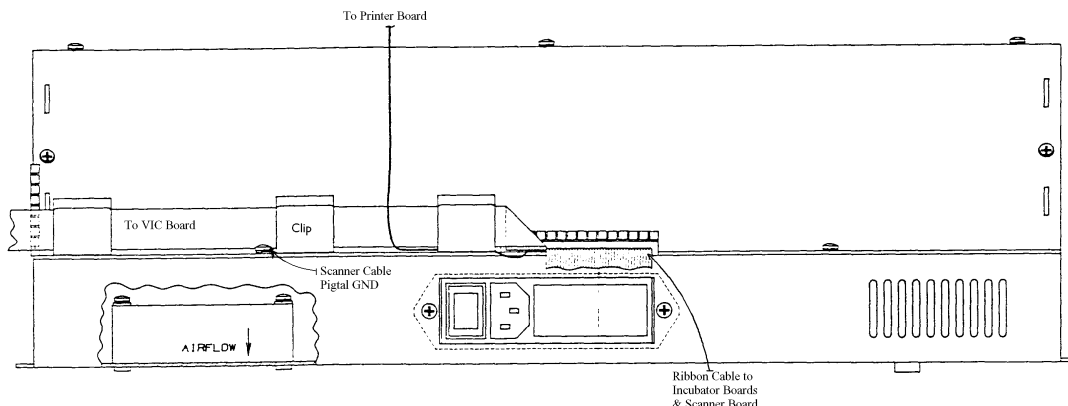

Figure 5-10 Power Supply Assembly
3. Remove the seven screws securing the Power Supply Cover (see Figure 5-10).